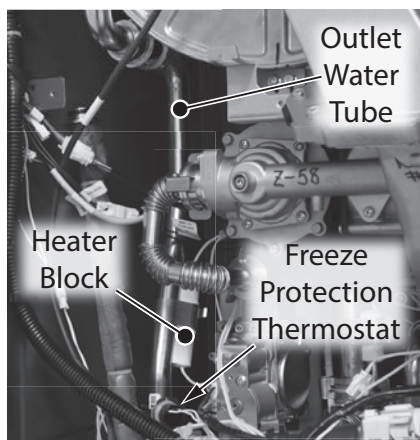

Figure 205 - Remove freeze protection thermostat and heater block from outlet water tube
**18** Locate the outlet water tube as shown in Figure 205. Remove the freeze protection thermostat from tube and set it aside in water heater cabinet for ease of outlet water tube removal.